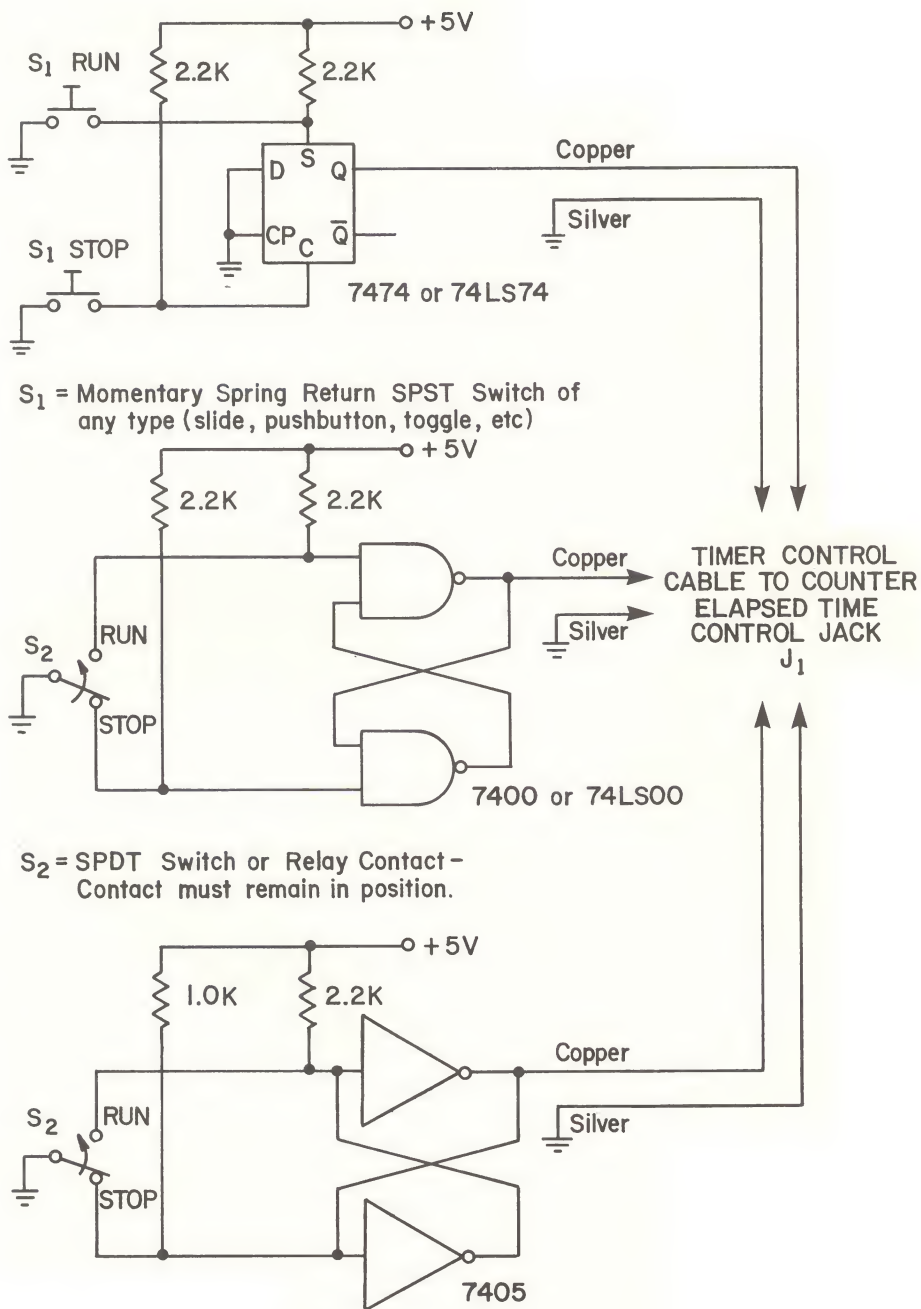

Fig. 17. De-Bounce circuits.
B. CONTACT DE-BOUNCING (Refer to Fig. 17)
For certain applications when a TTL interface circuit is not available at a timing signal source, a contact closure may be used to control the length of the time interval. This contact closure may consist of either switch contacts or relay contacts. The opening and closing of contacts may cause noise to be applied to the counter, preventing the Trigger Gate Logic circuitry from operating properly. As a result, slide switches are *not* recommended as a source of manual time interval control because they are extremely noisy. Pushbutton switches and toggle switches produce less noise because of their quick action. The decreased noise produced by these switches can be further reduced by connecting a $0.22 \mu\text{F}$ to $0.47 \mu\text{F}$ non-polarized capacitor across the switch contacts. If a relay is used, connect the capacitor across the relay contacts. This is sufficient for the proper operation of the Trigger Gate Logic circuitry most of the time. If a greater degree of reliability is required, a TTL circuit must be used. Several examples are shown below, in Fig. 17.